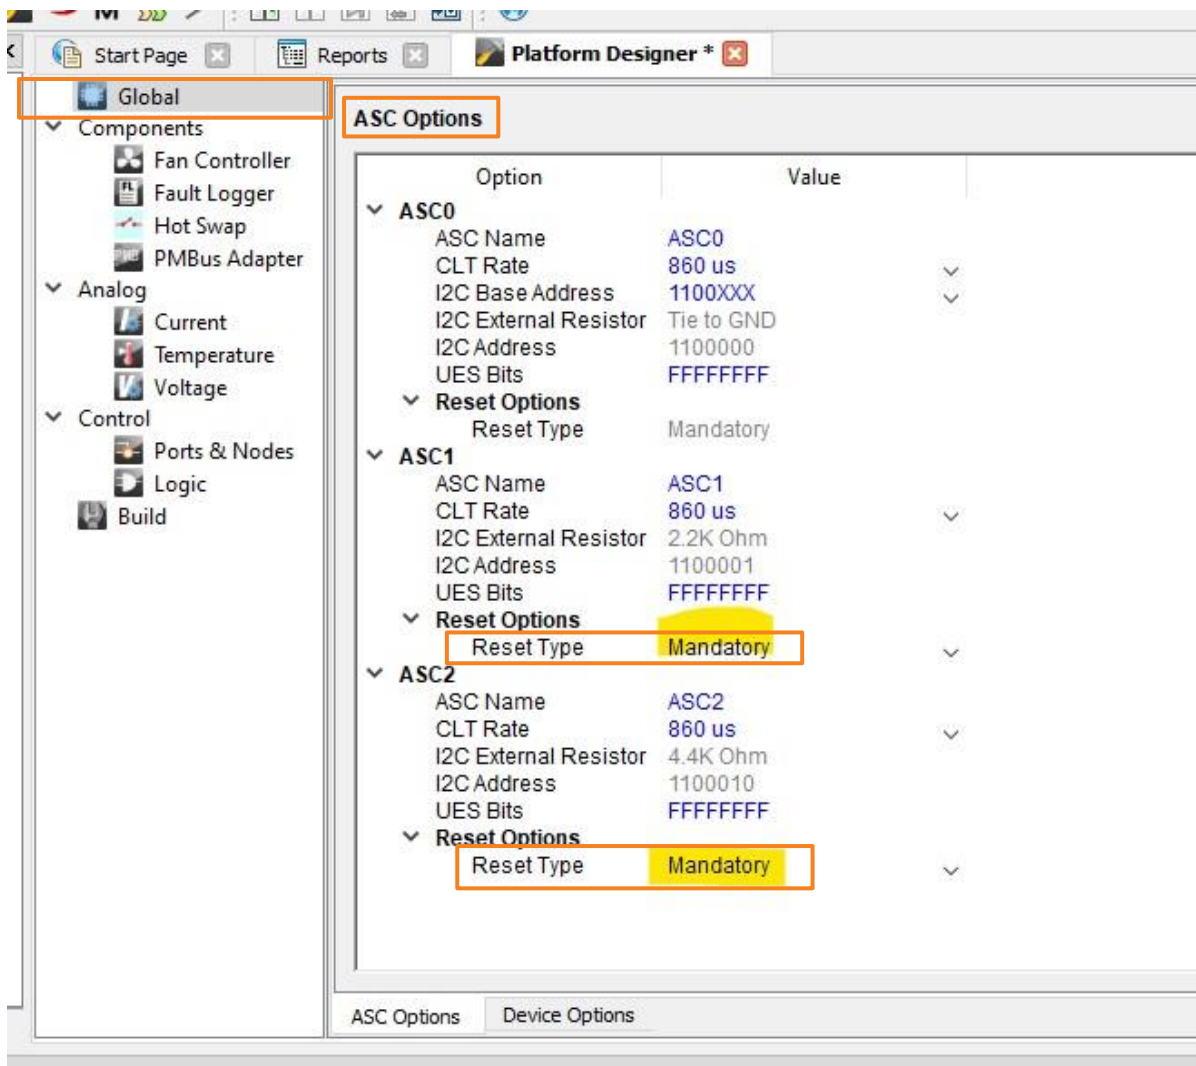

Figure 3.27. Lattice Diamond – ASC Options
5. Change the **Reset Type** for ASC1 and ASC2 to **Mandatory**, as shown in Figure 3.27. This will require all the L-ASC10 RESETb pins to be connected together (wire-OR'd), so that the sequence cannot start until all three L-ASC10s have completely powered up. The wire or'ing in hardware is done with jumper J12 on the ASC Breakout boards.